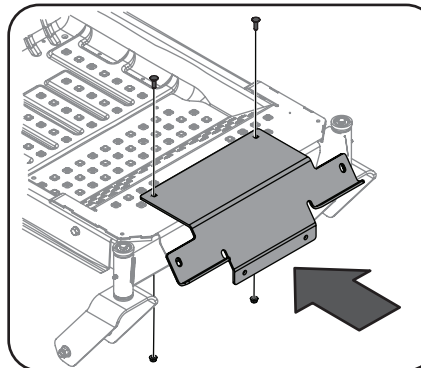

Figure 4-19
3. Place the bracket assembly on top of the washers and use 2 bolts (710-0276) and 2 nuts (712-04063) to secure the mounting bracket. See Figure 4-19.